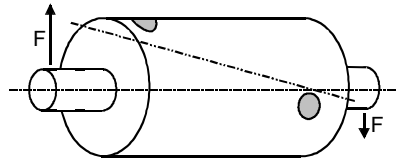

Figure 77: Dynamic balance
**Dynamic balance** occurs when the rotor axis and the mass axis are not congruent and when both axes intersect outside the center of mass. This case is also called two-plane unbalance. Dynamic balance is a combination of static and moment balance (Figure 77).